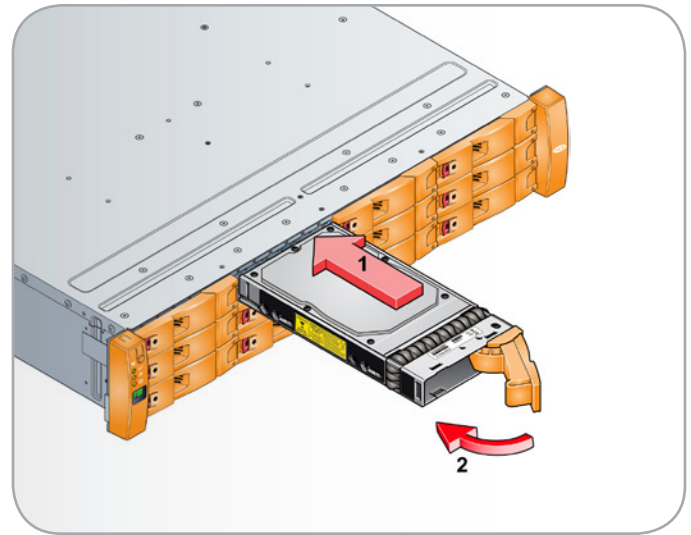

Fig. 37 - Inserting the Drive Carrier Module
- Slide the Drive Carrier module, gently, all the way into the enclosure until it stops and seat it by pressing with your thumb on the left edge of the module (Fig. 37).